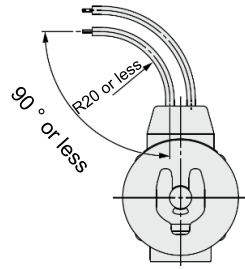

Figure 3. Lead wire bending
- Do not bend the lead wires beyond 90° with a radius of less than 20mm or damage may occur. See Figure 3.